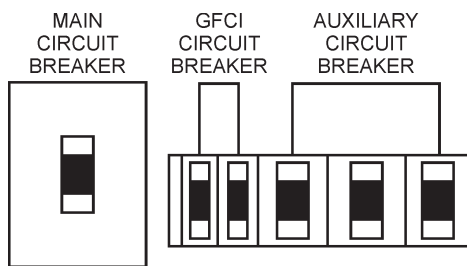

Figure 35. Main, Aux. and GFCI Circuit Breakers (OFF)
1. Place the main, G.F.C.I., and aux. circuit breakers (Figure 35) in the OFF position prior to starting the engine.